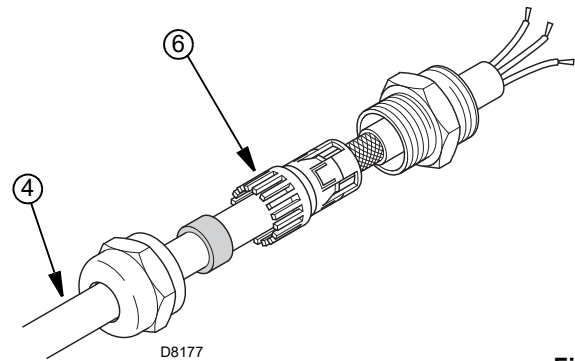

Fig. 25
- Shield the cable 4) running from the VSD (inverter), as shown in Fig. 25 and using the coupling 6);